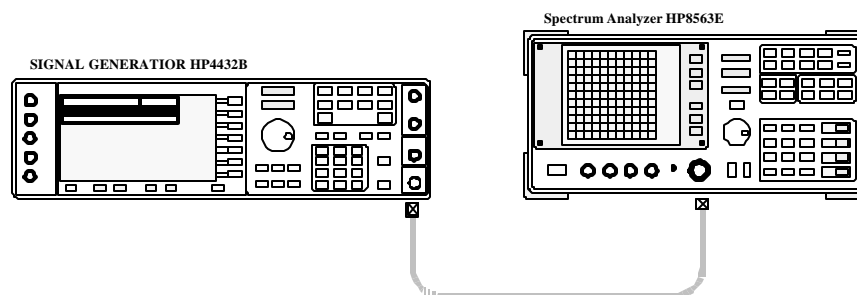

Figure 5 Signal Generator Calibration Configuration for Forward Link
- 1) Set System as follow Figure 5.